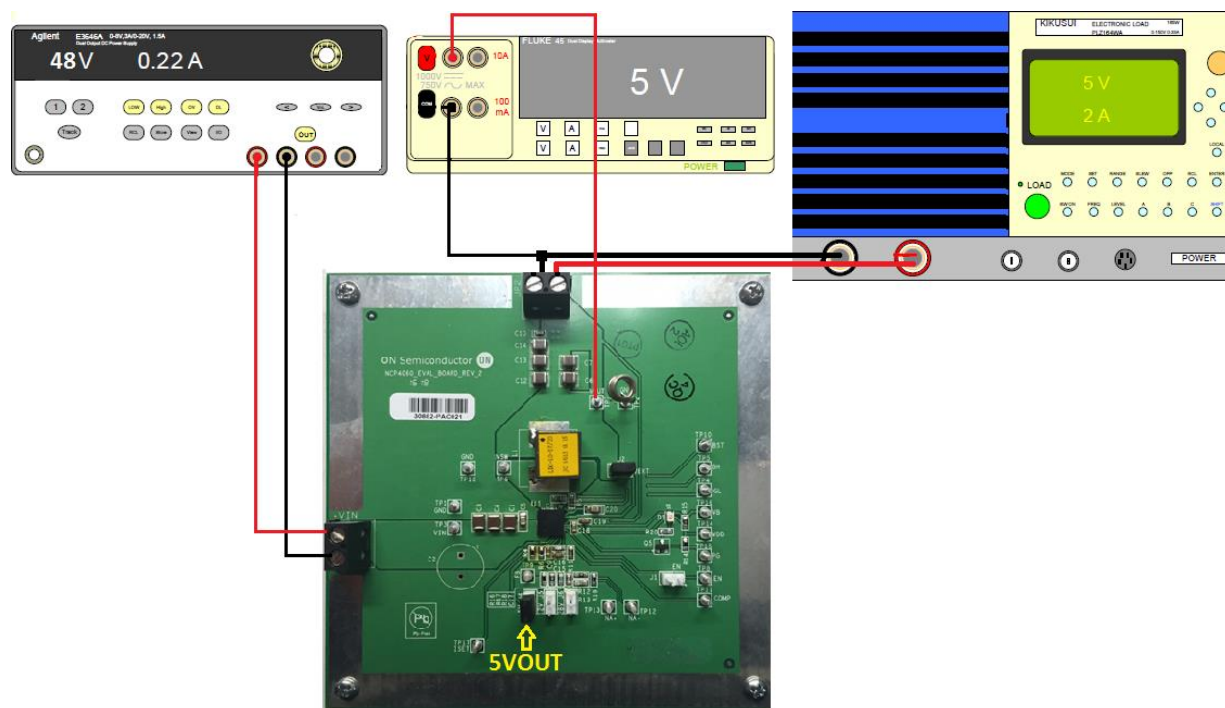

Figure 1: Test Setup
1. Connect the test setup shown in figure 1
4. Check Output Voltage by measuring V_{out} As shown in Figure 1